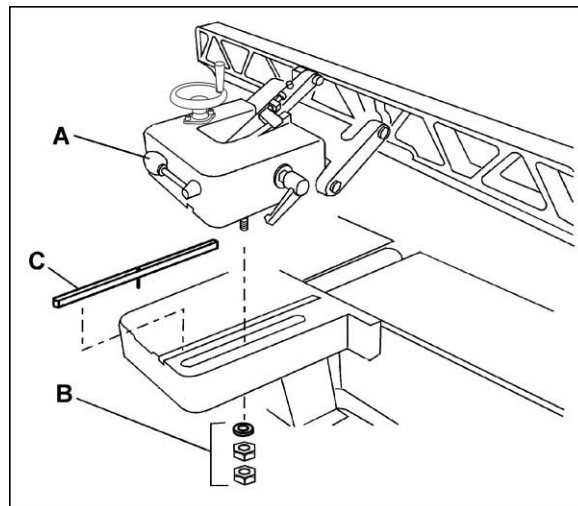

Figure 46
1. Release the fence locking handle (A, Figure 46) and remove the two hex nuts and washer (B, Figure 46) holding the fence to the slide bracket. Remove the fence assembly.
2. Remove the key (C, Figure 46) from the fence support. If necessary, use a flat head screwdriver to pry up one end of the key.
3. Replace the fence assembly at the desired angle across the cutterhead. See Figure 47. Secure the fence to the slide bracket with the hex nuts and washer (B, Figure 46), then tighten the fence locking handle (A, Figure 46).